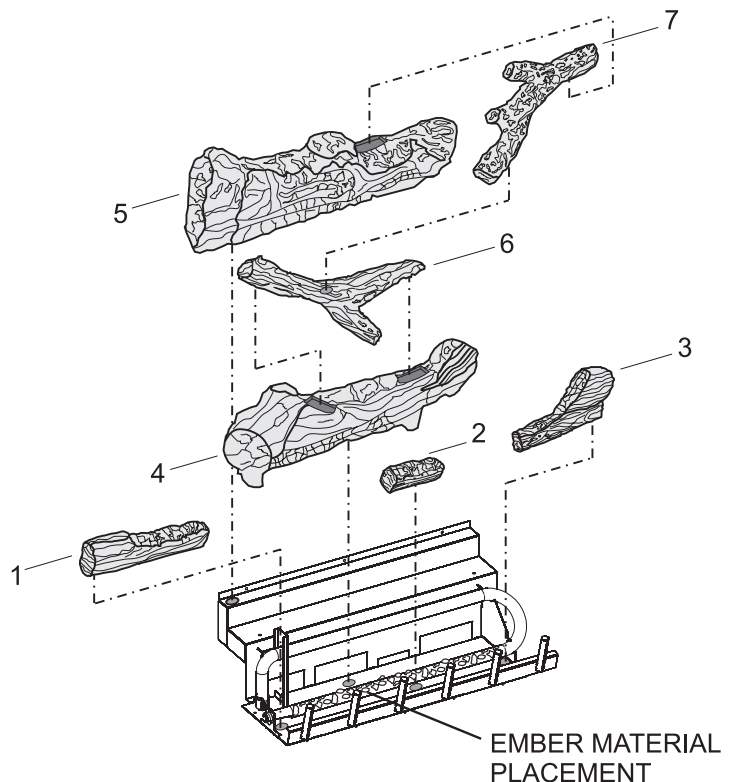

Figure 58
10. After all logs are positioned properly, apply glowing ember material to the front burner port area. To apply, carefully separate the ember material into small amounts no larger than "dime size" pieces. Fluffed up pieces one layer thick on top of the burner generally work best, and will provide the best ember glow. Do not place ember material more than one layer thick. No more than one small packet of ember material (part no. 15999) evenly placed on the burner, is recommended on DVD32 and DVD36 models. Using additional ember material will decrease the amount of ember glow effect. Extra ember material should be saved for future application as necessary. **See Figure 58.**
The positioning of logs is critical to safe and clean operation of this fireplace. Sooting and other problems may result if the logs are not properly and firmly positioned in the fireplace. Please refer to **Figure 57** and **Figure 58** and corresponding WARNING when completing following log placement steps.
11. After all logs are properly positioned, place small "dime" size pieces of Rockwool lightly across the front burner tube ports. Place the ember material (Rockwool pieces) side by side. Do not stack more than one layer of embers across the burner ports. See Figure 58.
Attention: Do not use Figure 57 or Figure 58 to order logs. Refer to parts lists and parts views on pages 60 to 63 to order logs and/or ember material for your appropriate fireplace model.